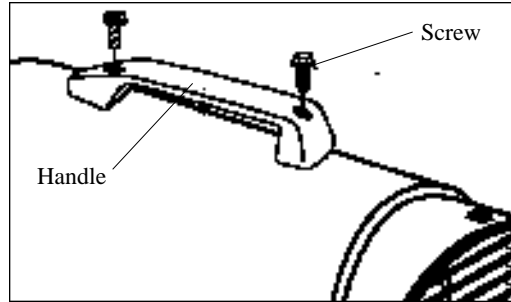

Figure 6
A. For DFA45/DFA65 Model only (Figure 6)
1. Align the holes on the upper shell with the 2 mounting holes on the handle as shown in Figure 6.